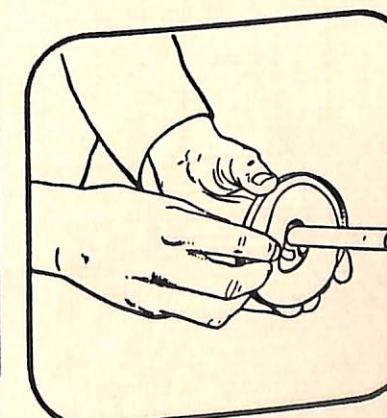

FIG. 74.
- (i) Replace felt pad on top cover plate (see fig. 74).